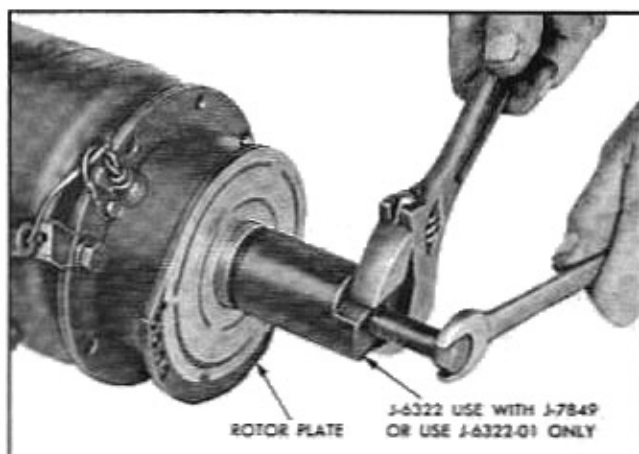

Fig. 7-47 Removing Rotor Plate
a. Back out pilot screw of J-6322 and thread body of tool onto threaded hub of rotor plate (Fig. 7-47).